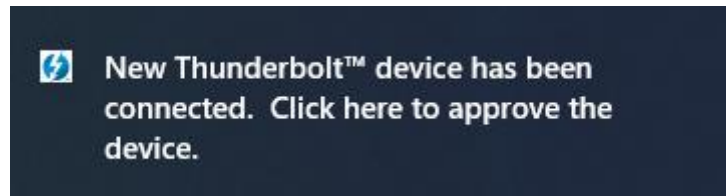

Figure 4-4 New Thunderbolt devices have been attached message
4. When the Host PC connects to the Apollo Developer Kit with Thunderbolt 3 cable for the first time. Windows should detect a Thunderbolt Device and you will see a “New Thunderbolt device has been connected” message appear in the bottom right corner of your screen as shown in **Figure 4-4**. Click the message to approve the device.